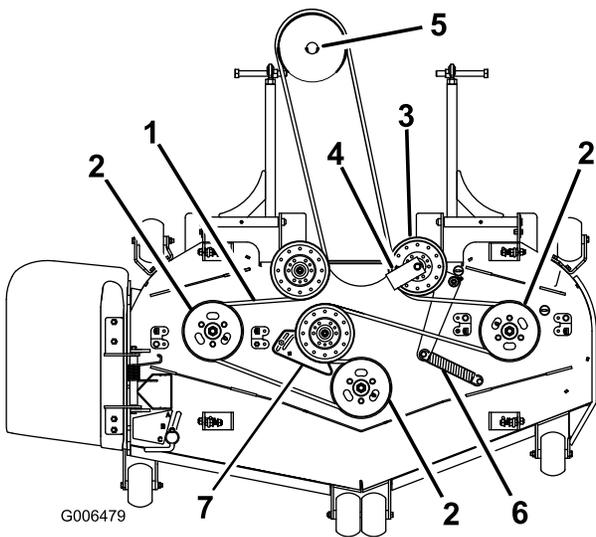
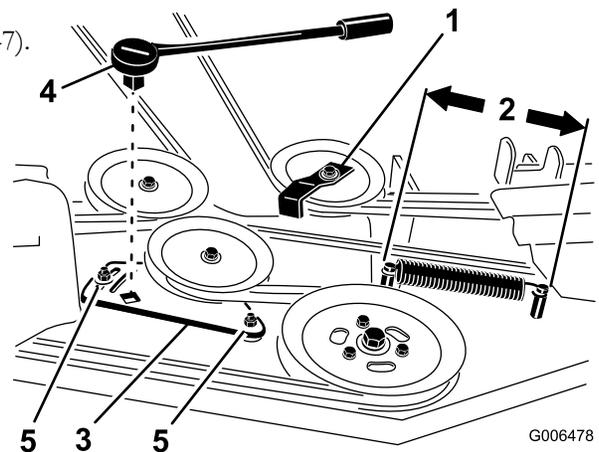

Figure 64
Figure 66
4. For 72 inch mowers, loosen the idler plate bolts holding the idler plate (Figure 66).
6. Remove the belt guide on the spring loaded idler pulley shown in Figure 64 and Figure 66.
8. Install the new belt around the mower pulleys and the gearbox pulley under the engine (Figure 64).
9. Install the belt guide on the spring loaded idler at a 45 degree angle as shown in Figure 64 and Figure 66. Torque the bolt to 27 to 33 ft-lb (37 to 45 N-m).
10. Install the idler spring to the two posts (Figure 64 and Figure 66).
4. Measure the spring length (Figure 66). If the spring length is between 10 and 10-1/4 inches (25.4 and 26.0 cm), from post to post, no adjustment is needed.
5. Loosen the bolts holding the idler plate (Figure 66).
6. Insert a ratchet or breaker bar into the square hole in the idler plate to adjust the tension (Figure 66).
7. Rotate the ratchet or breaker bar to move the idler plate until the idler spring is between 10 and 10-1/4 inches (25.4 and 26.0 cm) from post to post as shown in Figure 66.
8. While holding the belt tension and spring length, tighten the idler plate bolts that secure the idler plate (Figure 66).